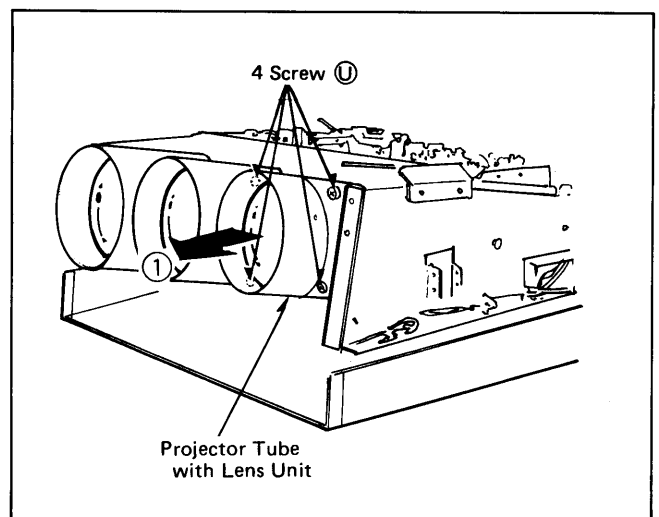

Fig. 16
- 10) Remove 4 screws (U) as shown in Fig. 16.
- 11) Carefully slide the Projector Tube with Lens Unit in the direction of arrow (1) as shown in Fig. 16.